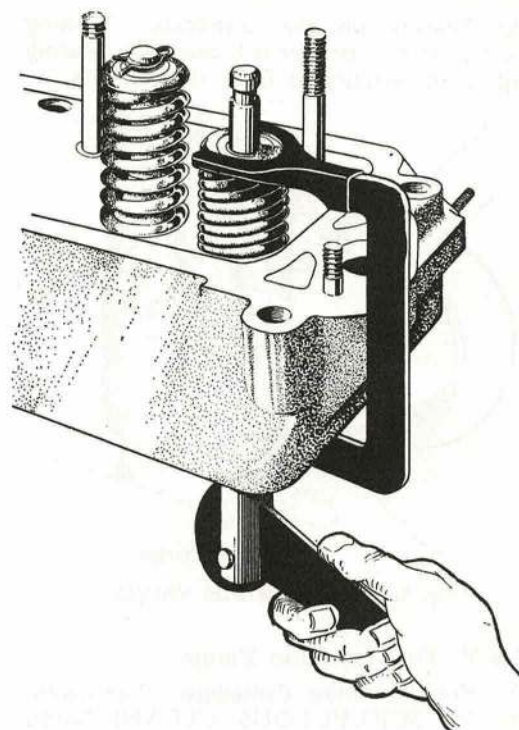

Fig. 3. VALVE SPRING COMPRESSOR
7. The removal of the valves will necessitate the use of a valve spring compressing tool, the type of tool being dependent upon the type of engine. Fig. 3 shows a valve spring compressing tool in use on an overhead valve cylinder head.